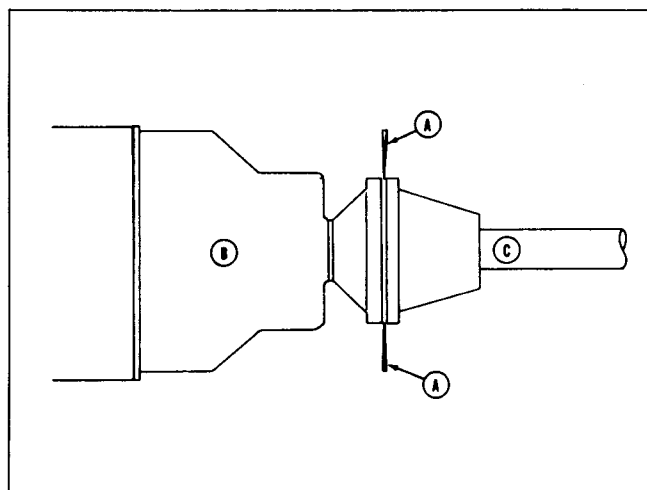

Fig. 16-1, (V11967). Checking alignment between marine gear and propeller shaft
3. Experience has shown that hulls often change shape after boat is launched; recheck and correct alignment, if necessary, with boat in water. This can be accomplished by removing the bolts in propeller shaft coupling and checking spacing of the two flanges on the circumference. For satisfactory alignment, variation should not exceed 0.004 inch [0.10 mm]. Fig. 16-1.